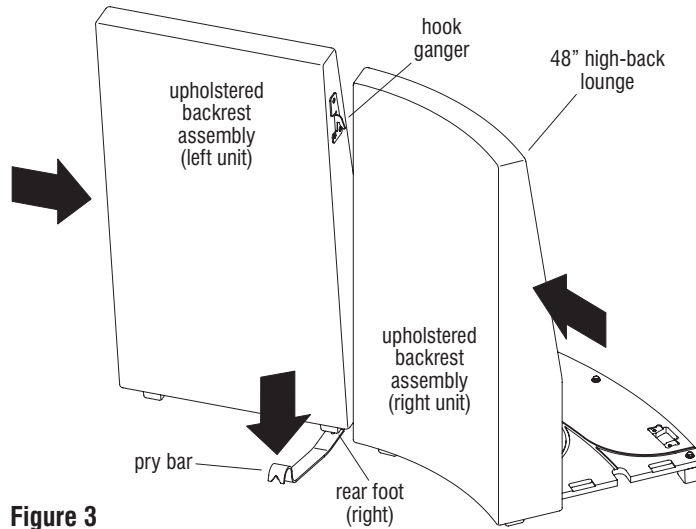

Figure 3
9. Push the two adjoining 48" high-back lounge units together and place a pry bar underneath the right side rear of the left lounge unit with hook ganger. If the lounge units being ganged have feet, place the pry bar underneath the right rear foot of the left lounge unit with hook ganger as illustrated in Figure 3 & Detail E.
10. With the assistance of a second person, apply side pressure to keep the two lounge units close together at the bottom, as shown by the arrows in Figure 3. Maintaining pressure, have one person step on the pry bar to raise the left lounge unit with hook ganger (Figure 3).